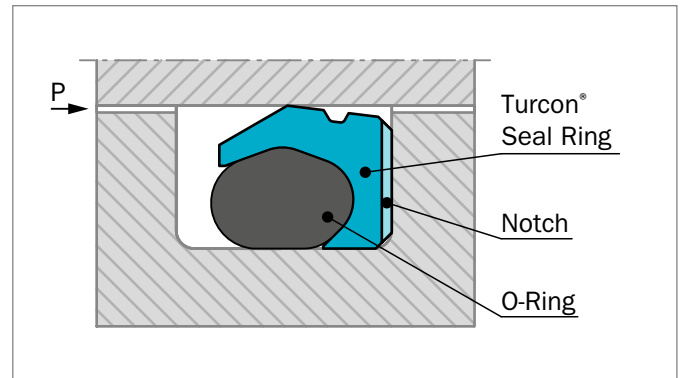

Figure 148: Turcon® Roto VL Seal® with radial notch
*** Use suffix "N" for seals with radial notches, for diameter $d_N < 1,000$ mm (Figure 148).